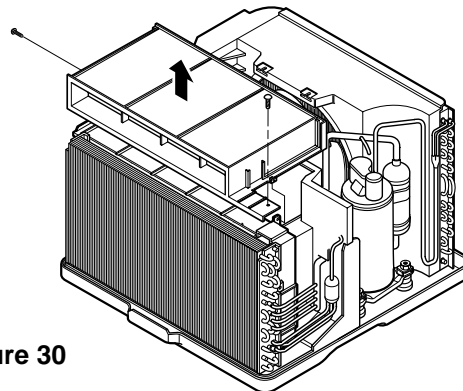

Figure 30
7. Re-install the components by referring to notes. (See Figure 30)